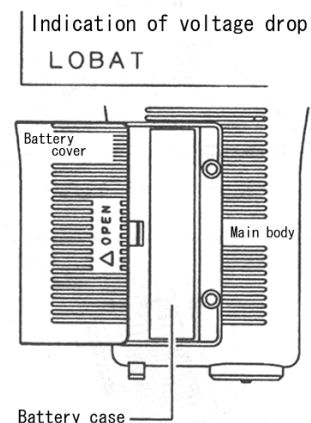

Fig.10
- When LOBAT(Low battery) is displayed on the lower left of the LCD as shown in Fig.10, replace the old batteries with fresh specified dry batteries R03 (1.5V) \times 2pcs (notice usable limits).